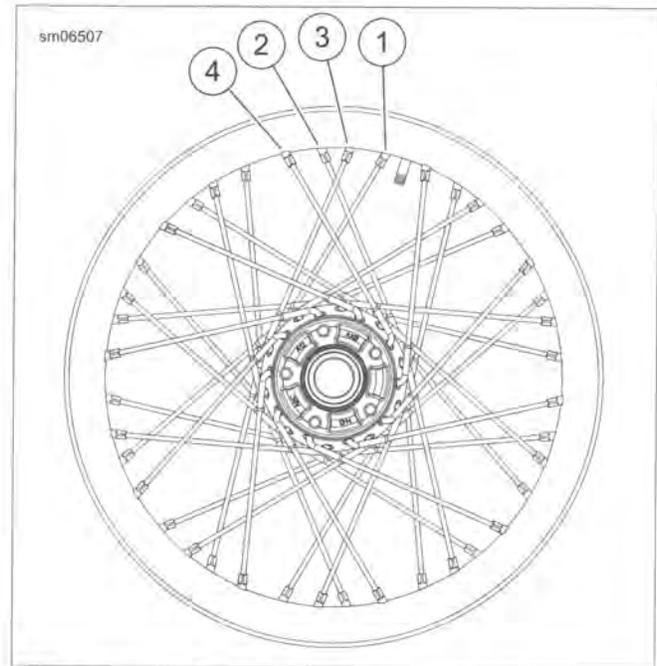

Figure 1-11. Tightening Laced Wheels (typical)
2. See Figure 1-11. Starting at the valve stem, identify the first group of four spokes (1-4).
1. See Figure 1-11. Starting with the first group of spokes, loosen spoke (1) 1/4 turn using SPOKE NIPPLE WRENCH (Part No. HD-94681-80).
2. Using SPOKE TORQUE WRENCH (Part No. HD-48985) tighten spoke (1) to the value listed in Table 1-8.
3. Repeat previous two steps for spoke (4) in the same group.